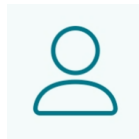

Figure 121. User Menu
1. Open the main menu by clicking the top left icon. See Figure 121.